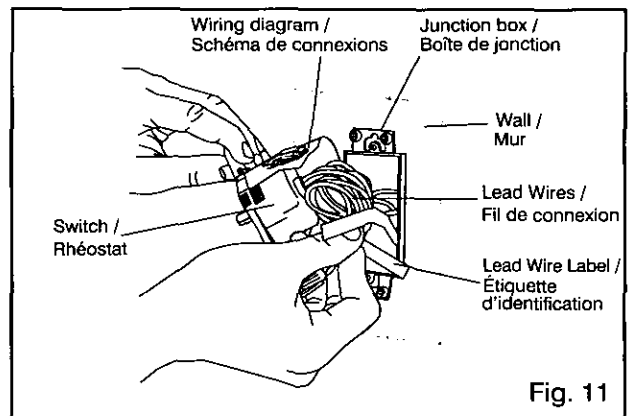

Fig. 11
9. After wire connection, wind the lead wires carefully and wrap tidely. (Fig. 11)
9. Les connexions faites, enrroulez et repliez les fils. (Fig. 11)